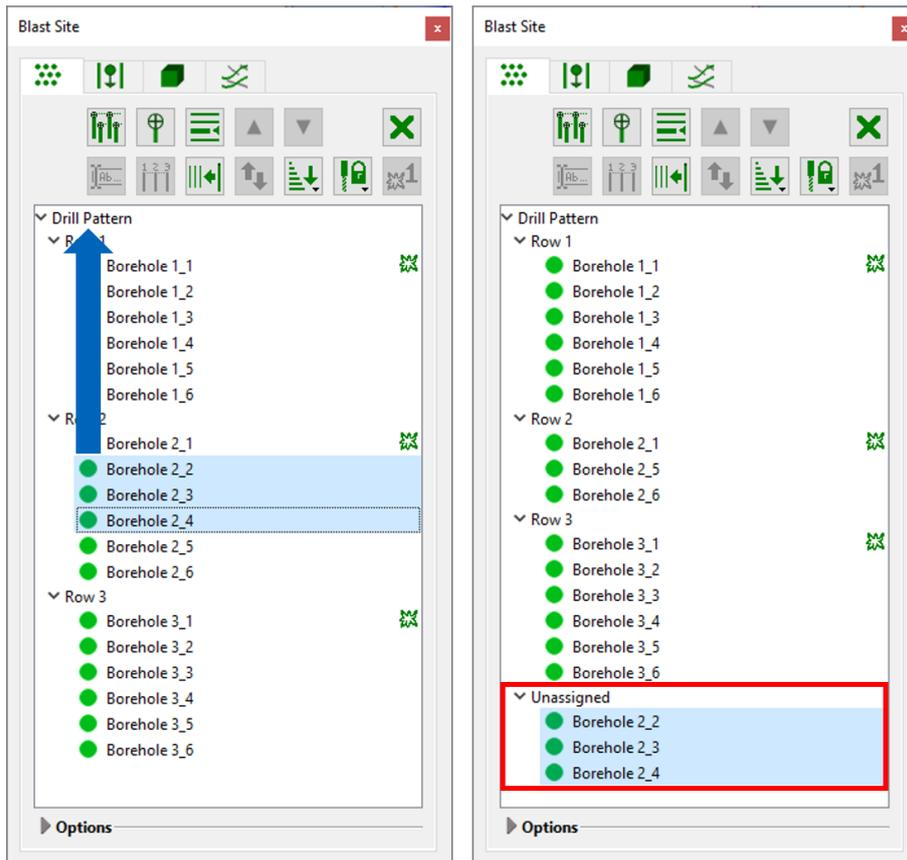

Figure 34: Dragging a borehole selection to the Drill Pattern entry forms an unassigned row at the bottom at the list
- If a borehole selection is dropped at the *Drill Pattern* entry, the boreholes are assigned to the *Unassigned* row (Figure 34)